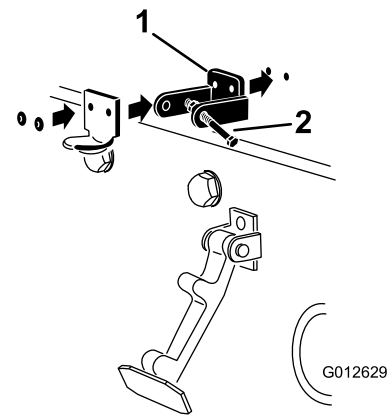

**Figure 8**
2. Remove the 2 rivets securing the hood-latch bracket to the hood (Figure 8).